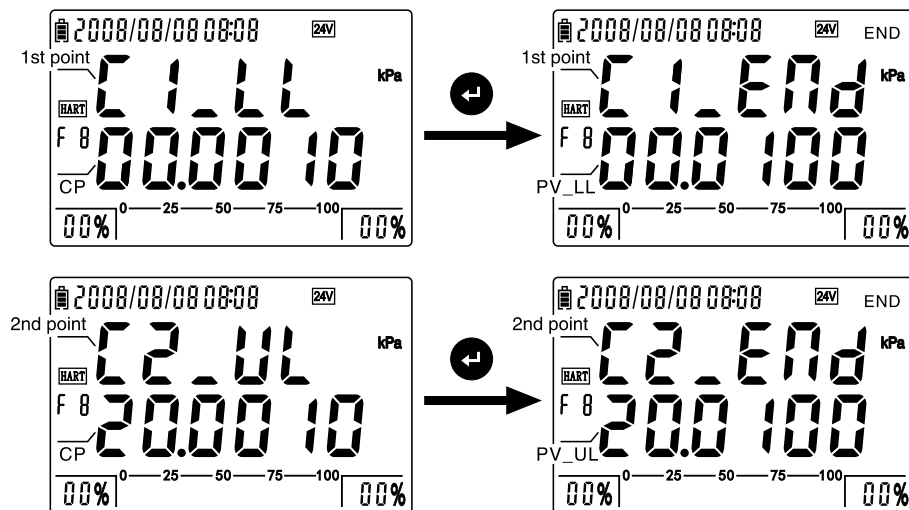

Figure 4-5-8-2: PV calibration process
to prioritize the calibration points. Then supply the pressure to the selected point. After CA value is steady, press to finish the calibration. Once every point is calibrated, the first line shows the character [END], the second line displays the new lower/higher limit of PV range. (As figure 4-5-8-2)
c. After calibration, press to the interface as figure 4-5-8-1, press to function 9.